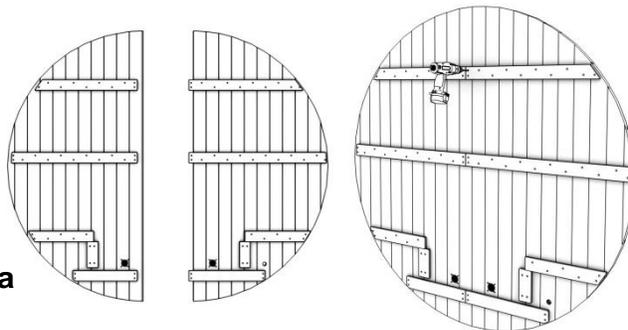

figure 5a
A. First, locate the two pieces that make up the rear wall panel. Use the provided screws to attach the two rear wall pieces together. Make sure the two sections are flush at the top and bottom. You will also need to connect the connection for the lights. See figure 5a & 5b.